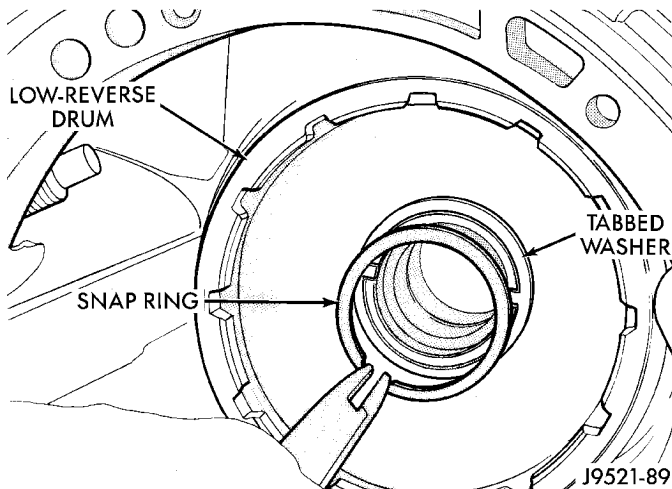

Fig. 130 Low-Reverse Drum Snap Ring
(4) Install thrust washer in low-reverse drum spot-face (Fig. 130). Use petroleum jelly to hold washer in place.
(5) Install snap ring that secures low-reverse drum to piston retainer hub (Fig. 130).